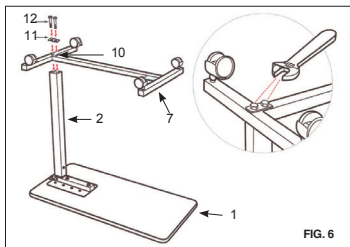

FIG. 6
6. Install two Bolt Sleeves (10) into upside down Base (7) and then position two Bolts (12) through Bolt Plate (11) and into Bolt Sleeves (10). Position Base (7) over Mast (2) and thread bolts into bottom of Mast (2) and tighten using wrench.(Fig. 6.)